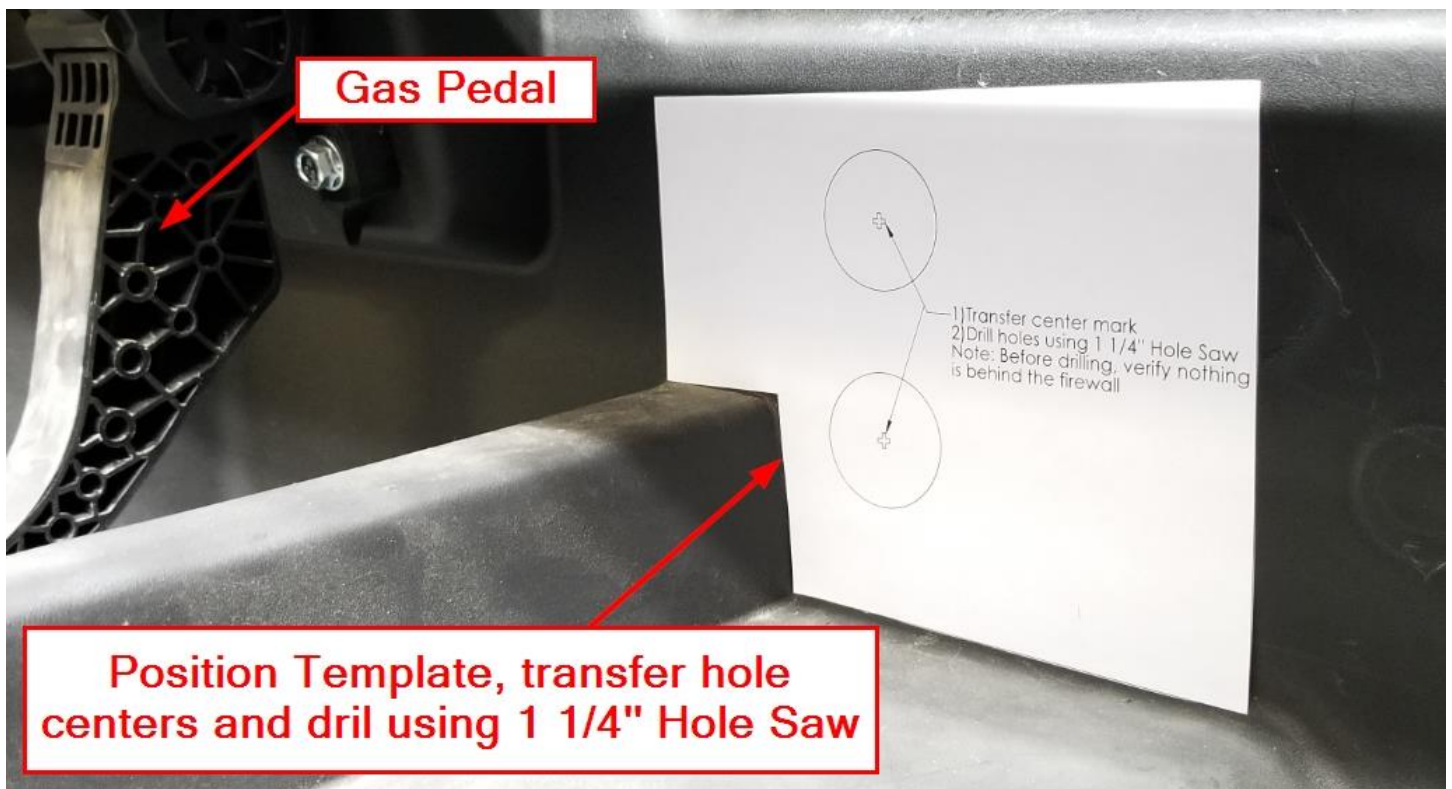

Figure 5
- Position the Coolant Hose Template as shown in Figure 5. Transfer the hole center locations and drill using the 1 1/4" Hole Saw. Insert the two 1 1/4" Rubber Grommets into the two holes.